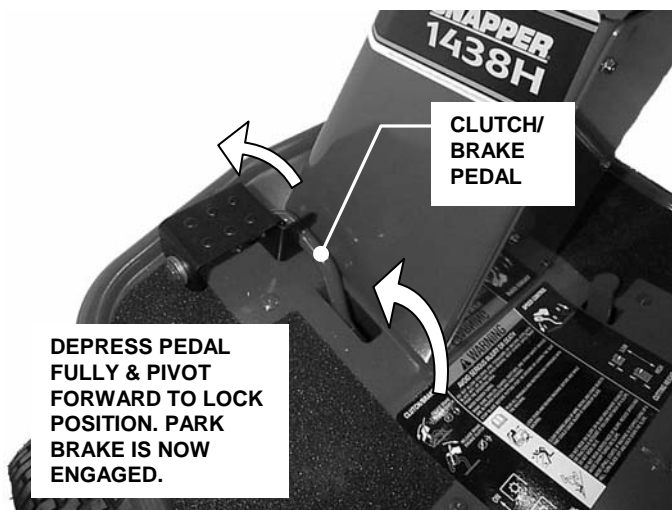

FIGURE 2.4
3. Engage parking brake. Depress clutch/brake control pedal fully and pivot foot forward to lock brake. Park brake is now engaged. See Figure 2.4.
2. Engage parking brake. See Figure 2.4.